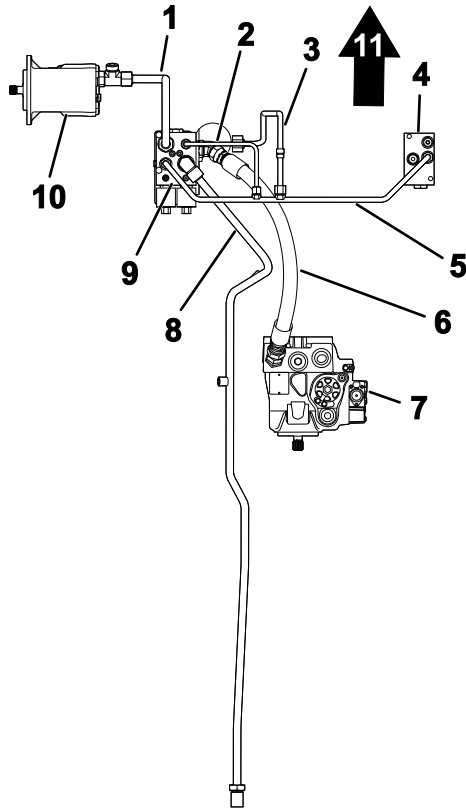
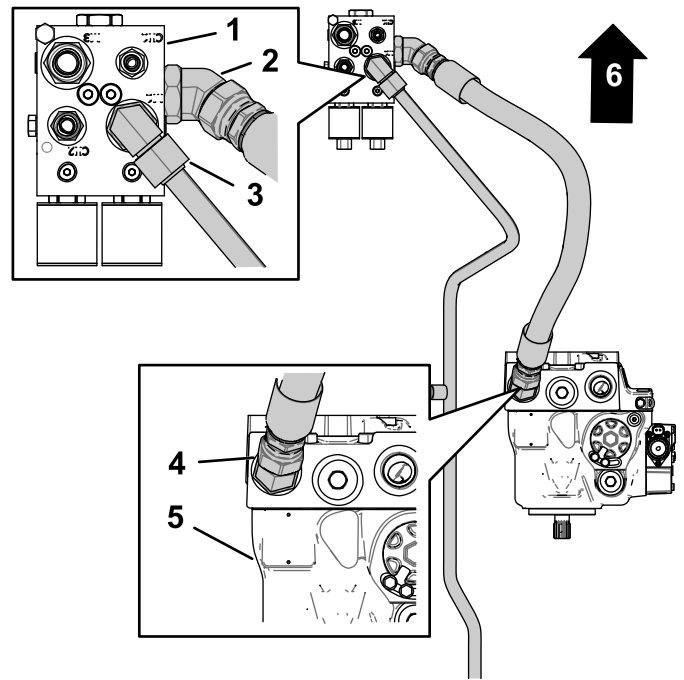

Figure 7
Figure 8
1. Align the forward tube nut for the rear-traction tube with the elbow fitting in the flow-divider manifold (Figure 7 and Figure 8).
4. Thread one straight end of the pressure hose into the fitting in the hydraulic pump (Figure 8).
6. Thread the other straight end of the pressure hose into the fitting in the side of the flow-divider manifold (Figure 8).